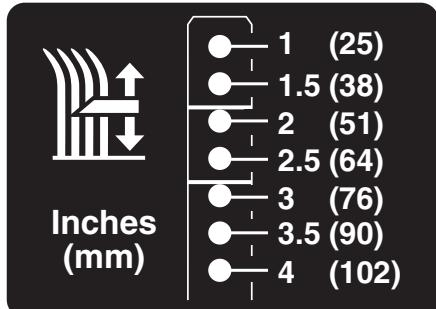

Figure 7
3. Set deck to desired cutting height (Figure 7).